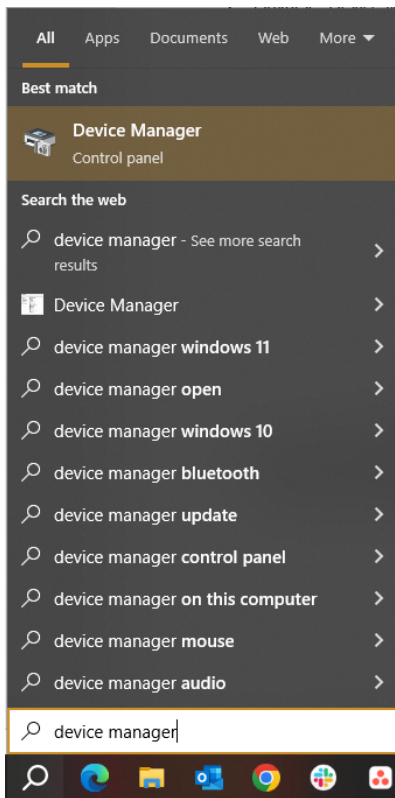

Figure 3.2: Find the Device Manager by Windows search bar.
2. On the computer, access the **Device Manager** by typing its name in the Windows search bar and selecting it from the results (Figure 3.2).